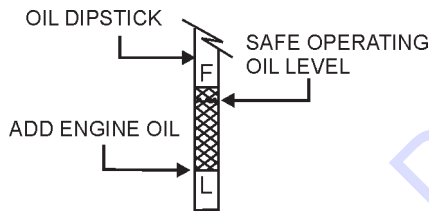

Figure 10. Engine Oil Level
2. Determine if engine oil is low (Figure 10).